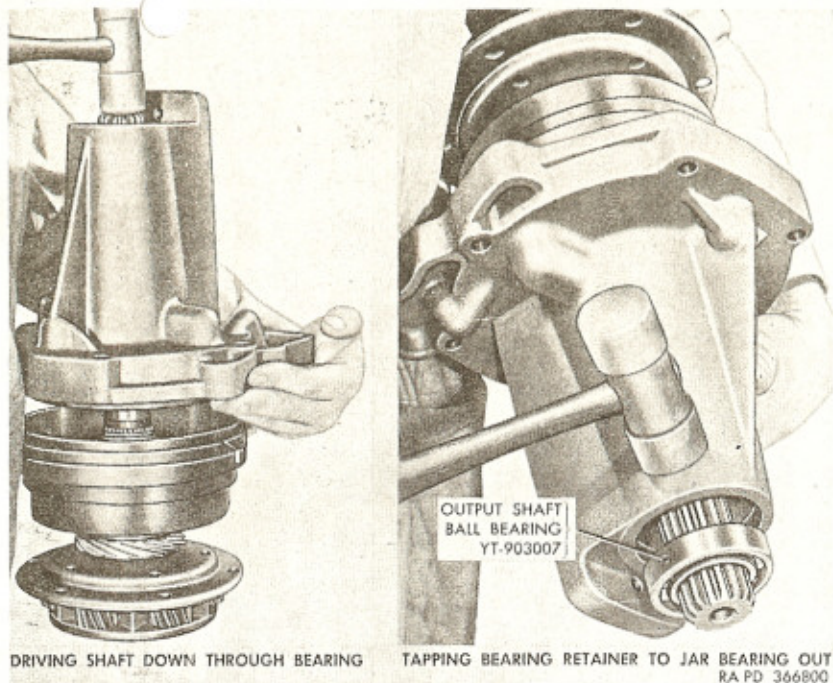

Figure 131. Removing output shaft bearing.
e. Lift output shaft, bearing retainer, and reverse unit assembly off bench with output shaft end up; then tap end of shaft with plastic hammer (fig. 131) until end of output shaft is flush with end of bearing retainer. Push bearing retainer down against reverse unit; then turn the assembly over and tap bearing retainer with plastic hammer (fig. 131) to jar output shaft ball bearing (EE) out of retainer and off shaft.